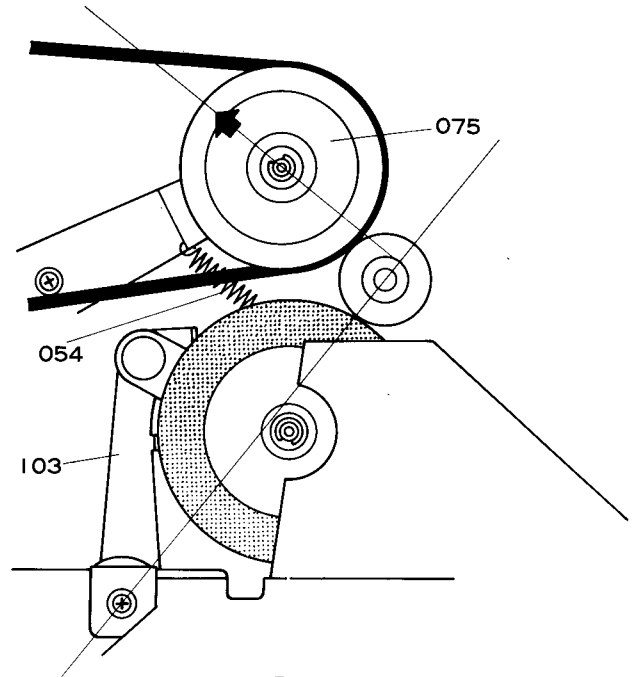

Fig. 7
- (1) Put a 7-inch test reel on supply reel spindle (116) and then turn on the power switch.
- (2) Hook a tension gauge on the test reel and shift the function selector knob (005) in rewind mode.
- (3) At the time shift the shut-off switch (SW7) in ON position by pressing the shut-off switch lever (104).
- (4) If the set is normal, the take-up tension is 450 ± 150 g.cm in rewind mode.
- (5) If the tension is out of this range, change the spring (A) in the reel spindle (116) or adjust or change the rewind roller lever spring (054).
- (6) After finishing the adjustment, turn off the power supply switch and put a test reel on the take-up reel spindle (117).
- (7) Turn on the power supply switch and shift the function selector knob (005) in rewind mode.
- (8) If the set is normal, the back tension is 30^{+0}_{-15} g.cm in rewind mode.
*** REWIND ROLLER PRESSURE ADJUSTMENT** (Refer to Fig. 7)
- (1) Turn on the power supply switch and shift the function selector knob (005) in rewind position.
- (2) Shift the shut-off switch (SW7) in ON position by pressing the shut-off switch lever (104).
- (3) Hook a tension gauge on rewind roller (075) and pull it in the direction at right angle to the line connecting the center of idler shaft and motor pulley.
- (4) If the set is normal, the measured value is 400 ± 50 g.
- (5) If the tension is out of this range, adjust it by rewind roller lever spring (054).